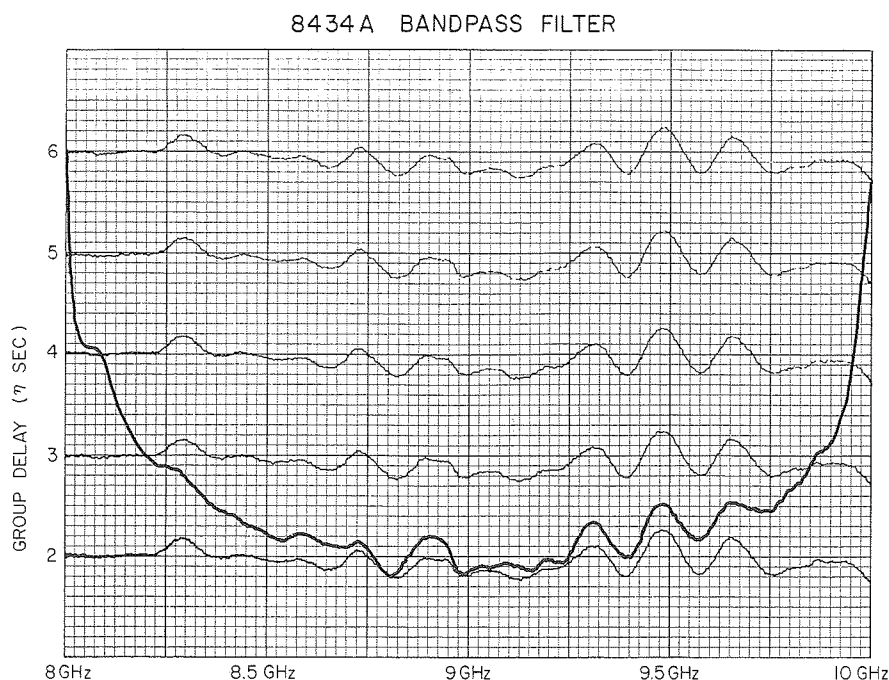
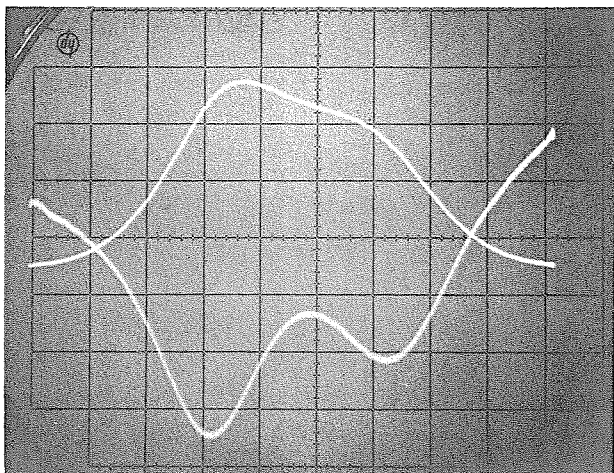

Figure 5. Group Delay of HP 8434A Bandpass Filter
Figure 6. Top Trace: Amplitude Response of IF Passband of FM Receiver. Bottom Trace: Group Delay. Note that filter in receiver is out of alignment.
In both setups either an X-Y recorder or an oscilloscope can be used as the display unit. In general, an X-Y recorder is used when a permanent record of total group delay is desired. Figure 5 shows an X-Y recording trace of the total delay of an 8 to 10 GHz bandpass filter. An oscilloscope is generally used to see relative changes in delay across a frequency band. In particular, an oscilloscope display is helpful when tuning a test device for best transmission characteristics. Figures 6, 7, and 8 show the different stages in alignment of an FM receiver passband filter. The amplitude characteristics of the filter are also shown by connecting the 8405A amplitude recorder output to the oscilloscope.
f. Figures 6, 7, and 8 show a typical oscilloscope display of group delay. The amplitude characteristics are also displayed by connecting the amplitude recorder output of the vector voltmeter to the oscilloscope.